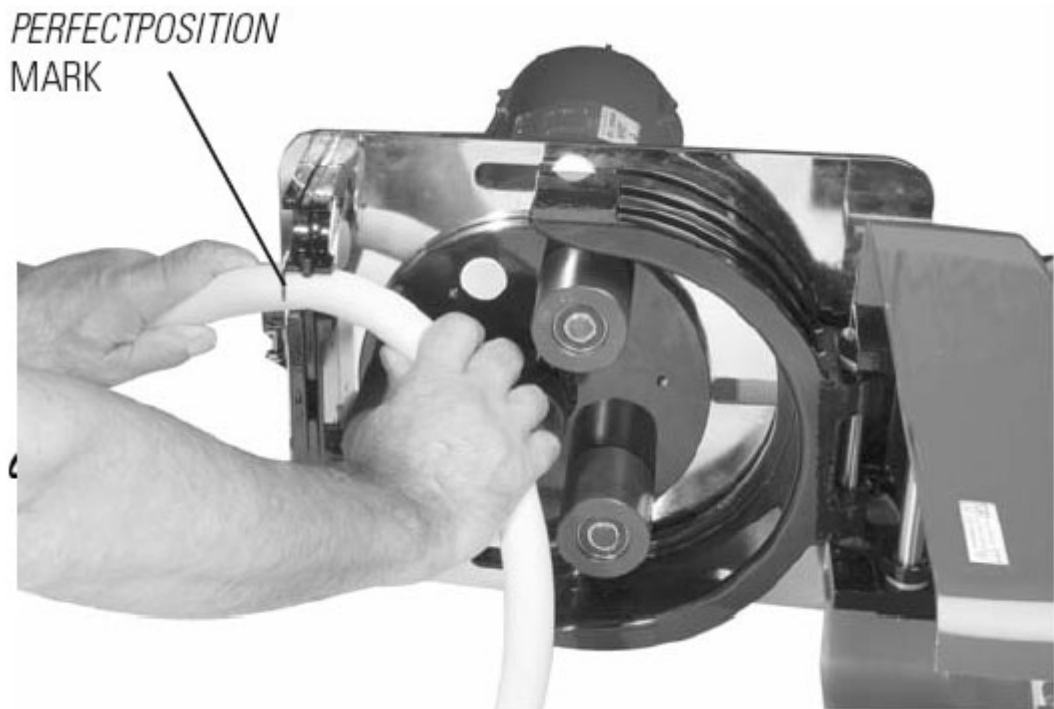

FIGURE 3 – TUBING RETAINING POCKETS
3. Insert the tube in the appropriate upper tube retaining pocket (see Figure 5). Line up the "*PERFECTPOSITION*" placement marks printed on the tube with the outside edge of the retainer assembly (see Figure 3).